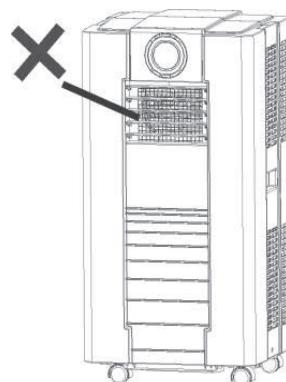

FIG. 2
- DO NOT PLACE OBJECTS ON THE UNIT OR RESTRICT AIR INLET / OUTLET (FIG. 2).